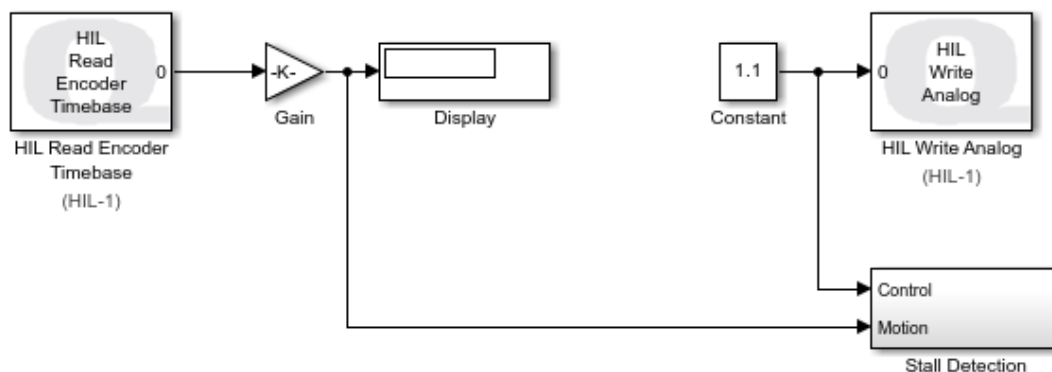
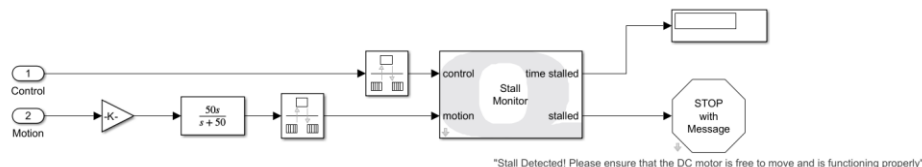

Figure 1. Simulink model used with QUARC to drive motor and read angle on Qube-Servo 3
Figure 4. Stall Detection subsystem
In this lab, we will make a **Simulink** model using **QUARC** blocks to drive the DC motor and then measure its corresponding angle – as shown in Figure 1.
3. Connect the **HIL Read Encoder Timebase** block as shown in figure 1, the HIL Write Analog should be missing.
2. Connect the **Constant** and **HIL Write Analog** blocks together, as shown in Figure 1.
**Note:** There is a **Stall Detection** subsystem in Figure 1 and Figure 4. This block will monitor the applied voltage and speed of the DC motor to ensure that it does not stall. If the motor is motionless for more than 20 seconds with an applied voltage of over  $\pm 5$  V, the simulation is halted to prevent the Qube-Servo 3 from overheating and subsequent potential damage to the motor.